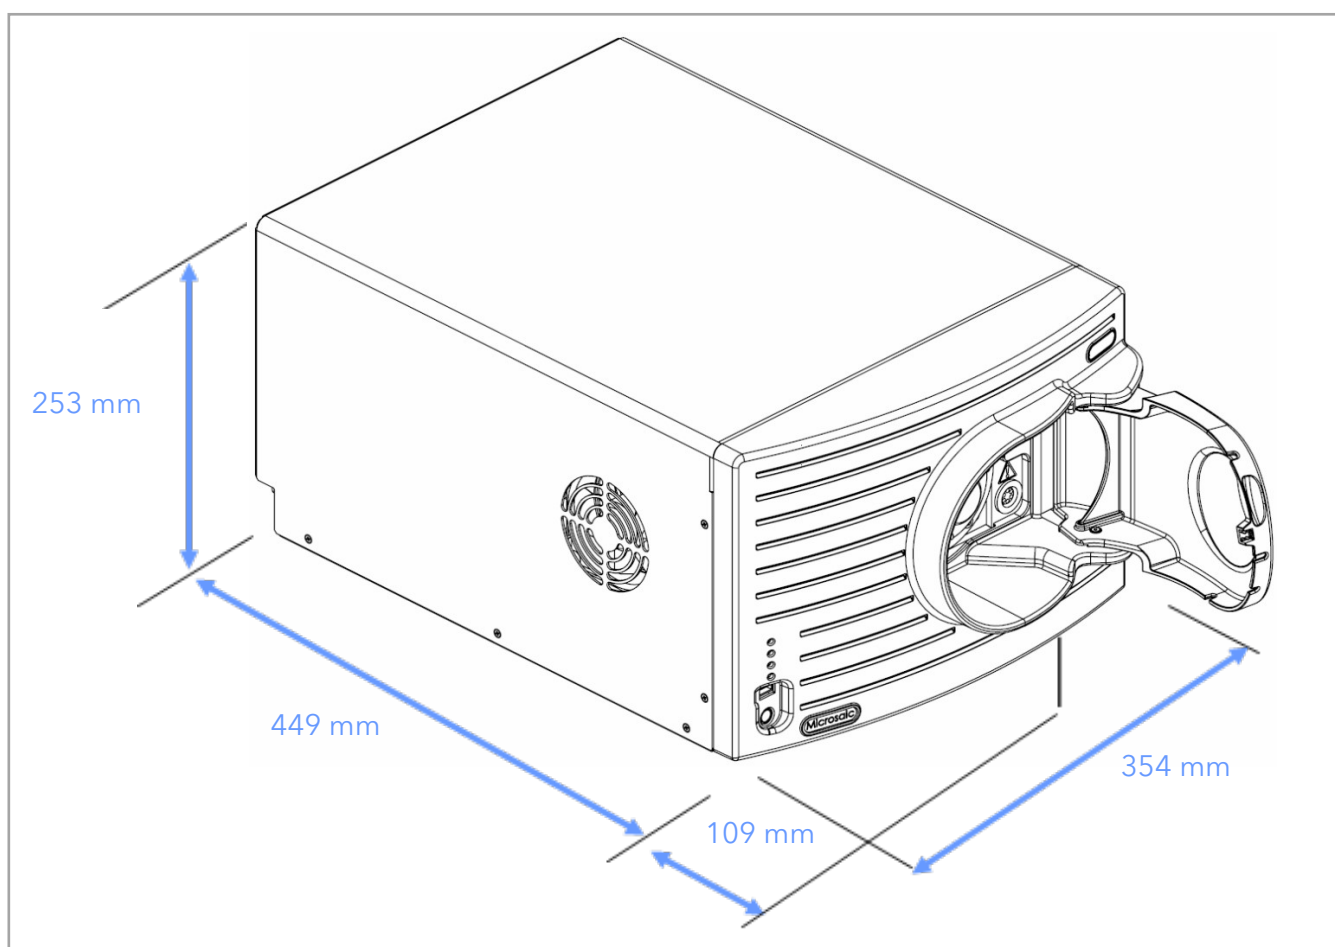

Fig.4 The 4000 MiD
Fig.4 shows a typical configuration of the 4000 MiD.
3. Switch the MiD on by pressing the power button on the front panel (see L in Fig.4). The on-board computer runs through its start-up sequence.